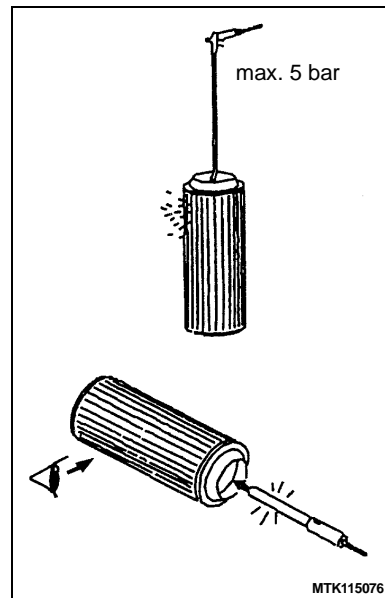

Fig. 85 Cleaning the main cartridge
**We urgently recommend replacing the main cartridge (fig. 85) when the maximum permissible intake negative pressure is reached, but in any case at least once a year.**
For cleaning, a pipe the end of which is bent at 90° should be attached to the compressed-air pistol. It must be sufficiently long to reach the floor of the cartridge. Blow out the main cartridge from the inside to the outside with dry compressed air (max. 5 bar) by moving the pipe up and down in the cartridge. Continue until no more dust escapes (fig. 85).